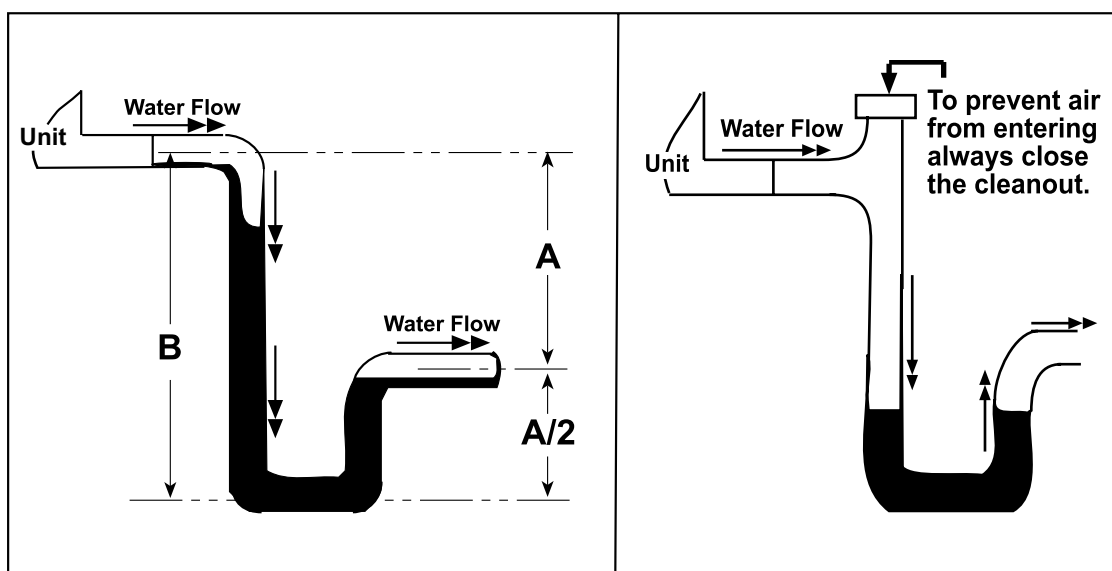

Figure 13. Condensate Drain Trap
- As condensate forms during normal operation, the water level in the condensate drain trap (see Figure 13) rises until there is a constant outflow.
- If dimension B shown in Figure 13 is not of sufficient length, the water seal will not hold and air will be drawn through the drain pipe into the unit. If the outlet leg of the trap is too long, water will back up into the drain pan.
- Refer to the following equation (dimensions refer to Figure 13) to calculate the appropriate dimensions for trapping a negative pressure system.